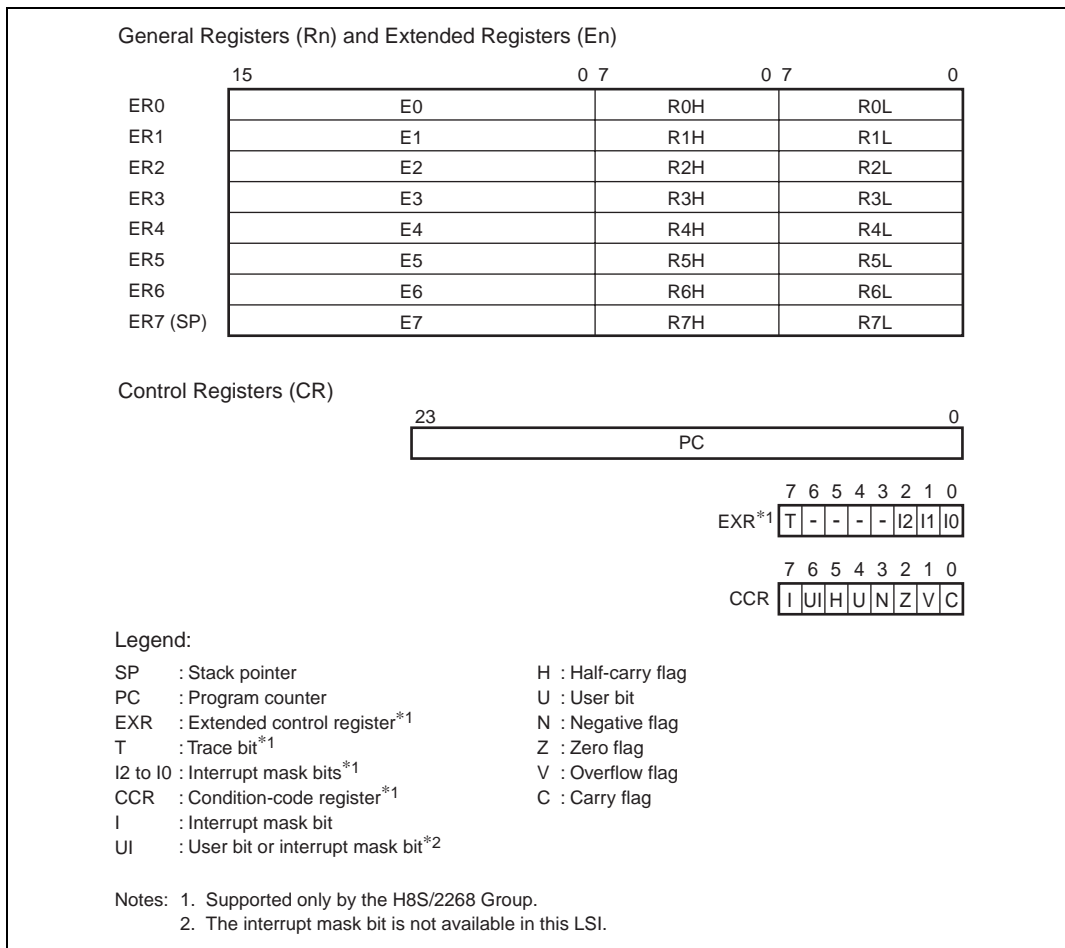

Figure 2.6 CPU Registers
The H8S/2000 CPU has the internal registers shown in figure 2.6. There are two types of registers: general registers and control registers. Control registers are a 24-bit program counter (PC), an 8-bit extended control register (EXR*), and an 8-bit condition code register (CCR).